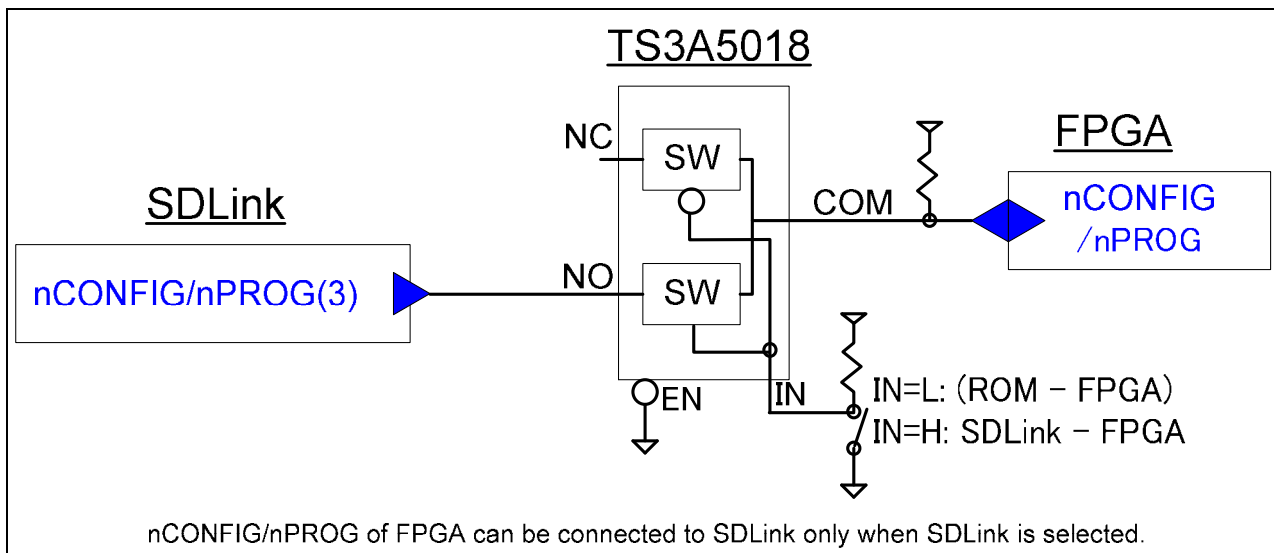

Figure 4: nCONFIG/nPROG signal connection using TS3A5018
- Following figure 4 shows configuration start signal connection using TS3A5018.